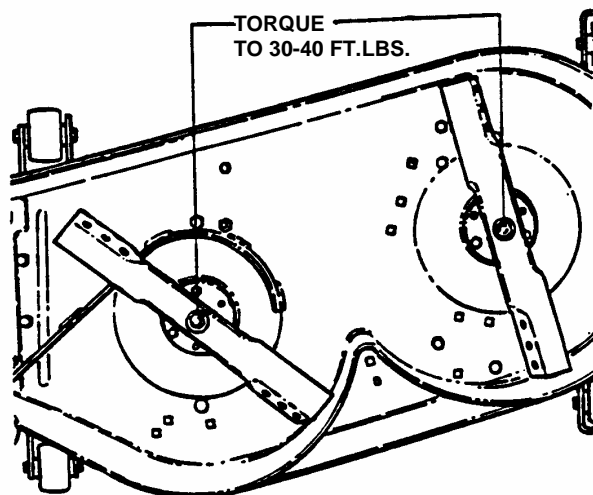

FIGURE 3.2
4. Check torque of blade mounting bolts. Torque bolts to 30 to 40 ft. lbs. See Figure 3.2.